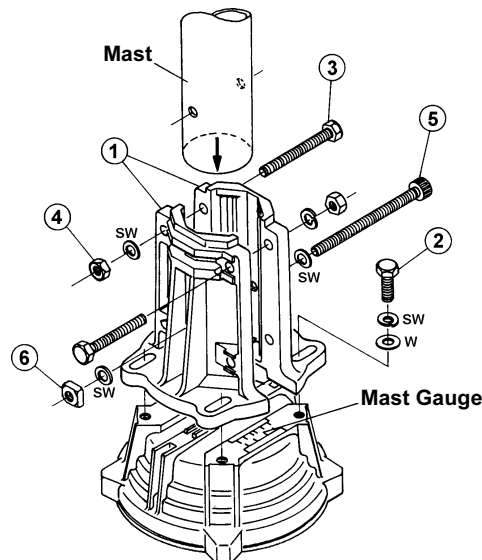

Figure 5
4. Partly tighten the mast clamp ① to the rotator housing using the supplied M8 x 25 bolts ②, spring washers and flat washers (see Figure 5).
5. Using a "gin pole" or other raising fixture, insert the antenna mast through the bearing from above, and set the mast in the rotator's mast clamps, then partly tighten the mast clamps using the supplied M8 x 70 bolts ③ and spring washer.